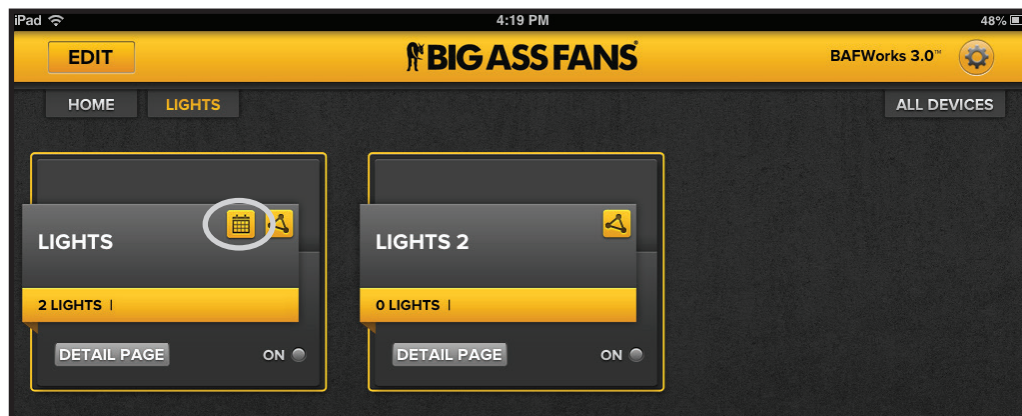

Figure 5—Calendar icon on the light group icon
12. Observe the light group icon on the light groups screen. Note that a calendar icon appears in the top right corner of the group icon, indicating that scheduling is enabled for the group (Figure 5).